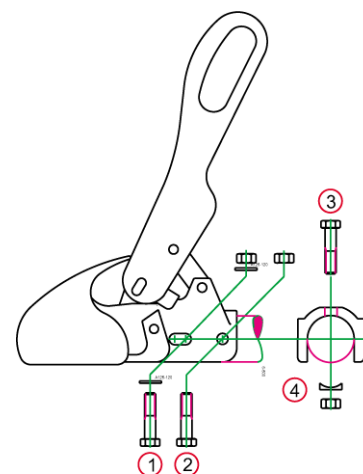

Fig. 3: mounting
2.2 The **WS 3000 D-S ball coupling** is fitted using longitudinal (1)+(2) or cross (1)+(3) screw connections and the hole spacings of 40/50/54 mm. The coupling **WS 3000 H-S/L-S** can be fitted using the cross screw connection (1)+(3) and the hole spacing of 40mm. The fittings are part of the scope of supply and should be applied as follows: (Fig. 3)
2.3 If the WS 3000 ball coupling is used as a replacement for another type of coupling, care must be taken in connection with the overrun equipment to ensure that the shock absorber is refitted properly and that any spacer tubes in the drawbar are reinstalled correctly. Please use the Ø 12 x 34 mm or Ø 12 x 49 mm bolts supplied for this purpose depending upon the drawbar diameter. Use bolts as a drift when dismantling the fixing screw (2) or (3) (Fig. 3) depending upon the method used to mount the shock absorber and leave them in the drawbar during assembly/dismantling of the ball coupling for centering the shock absorber. Remove the bolts again when pushing the new fixing screw through.